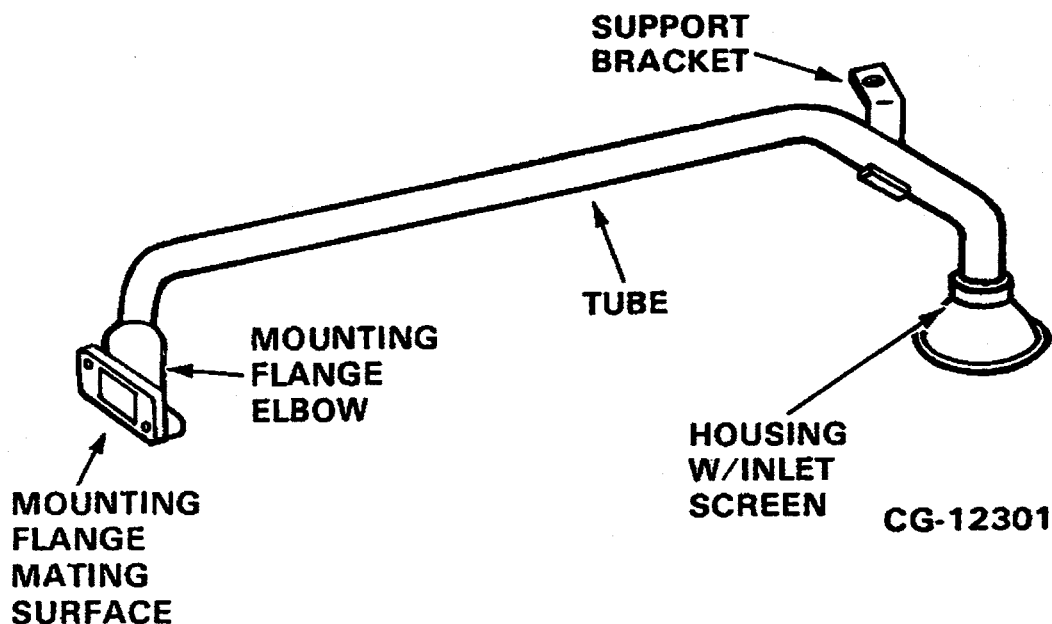

Figure 9.41. Oil Pump Pickup Tube Leak Check Areas
7. Check the oil pickup tube using a soap solution at the following locations: (Look for bubbles.) (Refer to **Figure 9.41**)